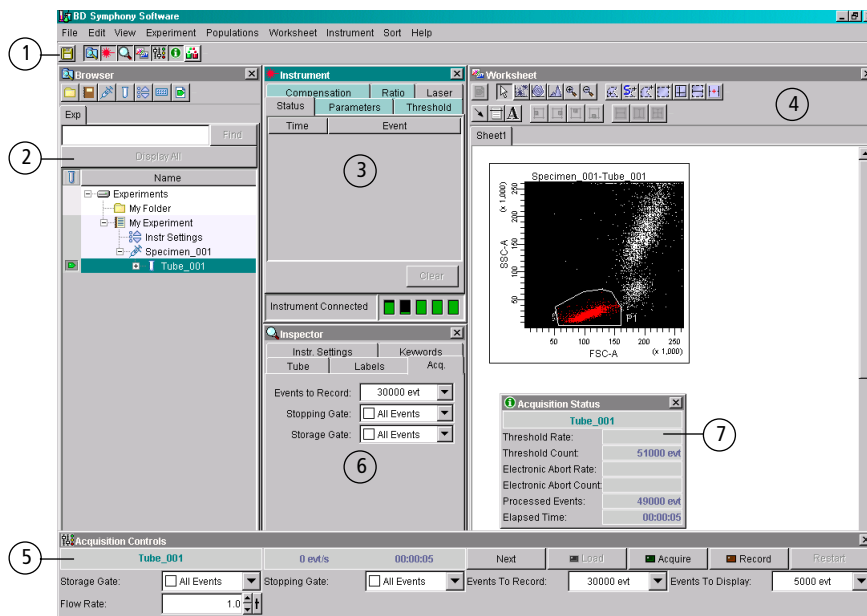

Figure 3-1 BD FACSDiVa workspace
When you start BD FACSDiVa software, the workspace appears (Figure 3-1). *Frames* containing the main application components are displayed within the workspace by clicking the corresponding buttons in the Workspace toolbar (① in the figure). Frames shown in Figure 3-1 are numbered 2–7. Two additional frames can be displayed by clicking the Sorting button in the Workspace toolbar; see *Sorting Controls* on page 87 for a description.